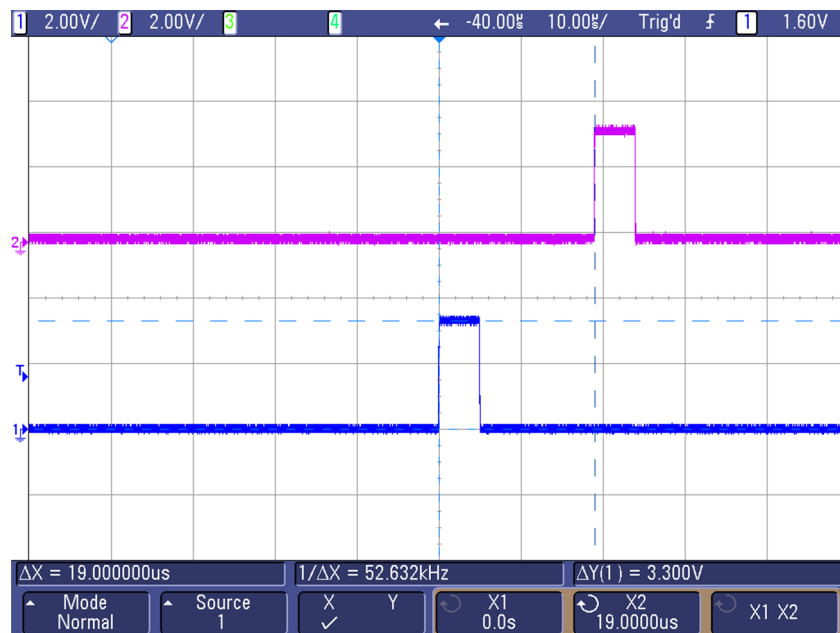

Figure 5. START and STOP Signals Scope Shot
- (a) Set channel 1 of the dual function generator to the following (see Figure 5):
- (b) Set channel 2 of the dual function generator to the following (see Figure 5):